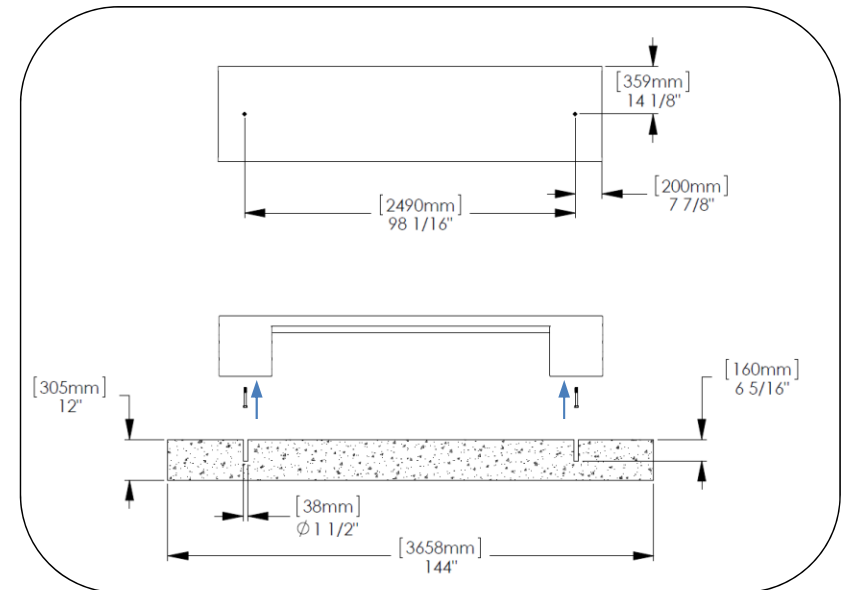

Fig. 3 – hole locations, straight unit
2. Drill holes according to Fig. 3.